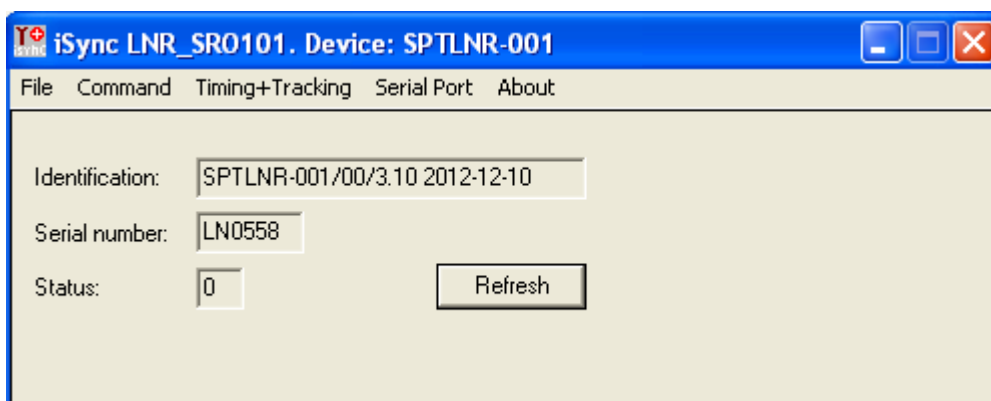

Figure 1 - iSyncMgr.exe
- Once the serial port number is properly working, click on the “Refresh” button. The Identification, Serial Number and Status of the smart rubidium clock inside the RBSrc-1500 / GNSSrc-2500 should be displayed as Figure 1 below: